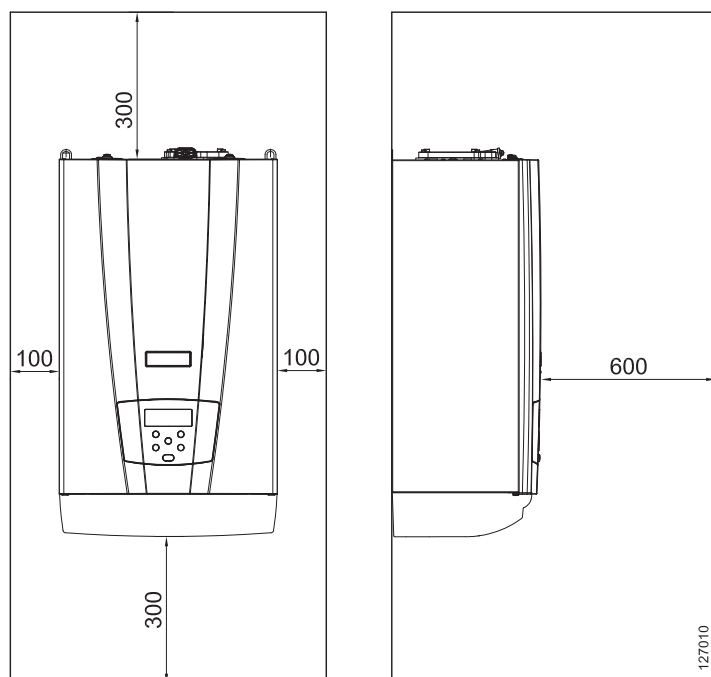

Figure 5-1 - Minimum safety distances for installation and future maintenance
- ☞ Check Figure 5-1 concerning the minimum safety distances for installation and future maintenance.
For both installation and maintenance, it is necessary to leave free spaces around the boiler, as shown in figure 5-1.